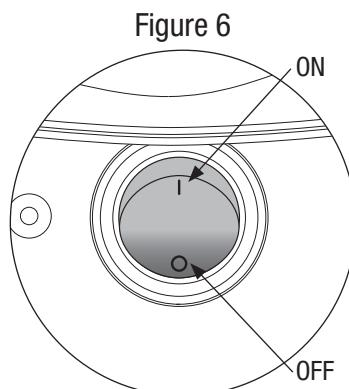

Figure 6
4. Make sure power button is in the (OFF) position (Figure 6).
1. Turn the power button on the insect trap to (OFF) (Figure 6).
1. Push the power button to (OFF) (Figure 6).